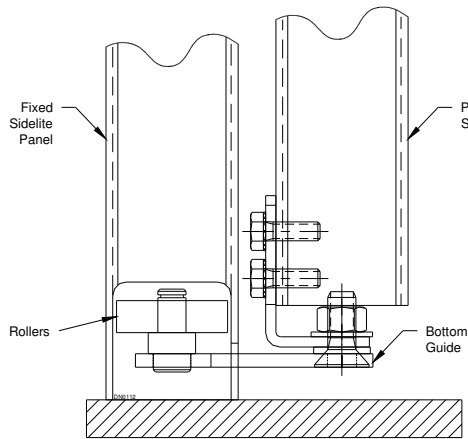

Figure 36
2. Panic the door open. Attach bottom guide by using two 1/4-20 x 1 inch hex head bolts and two star washers to pivot stile (See Figure 36).